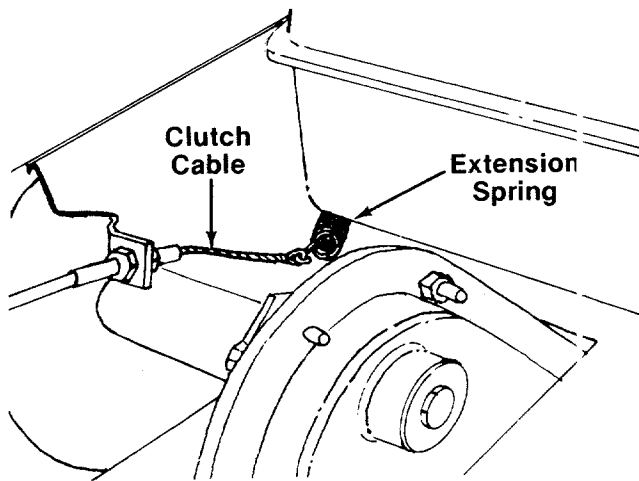

FIGURE 14.
- 16. Hook the end of the clutch cable (already attached to the tiller) over the extension spring as shown in figure 14.